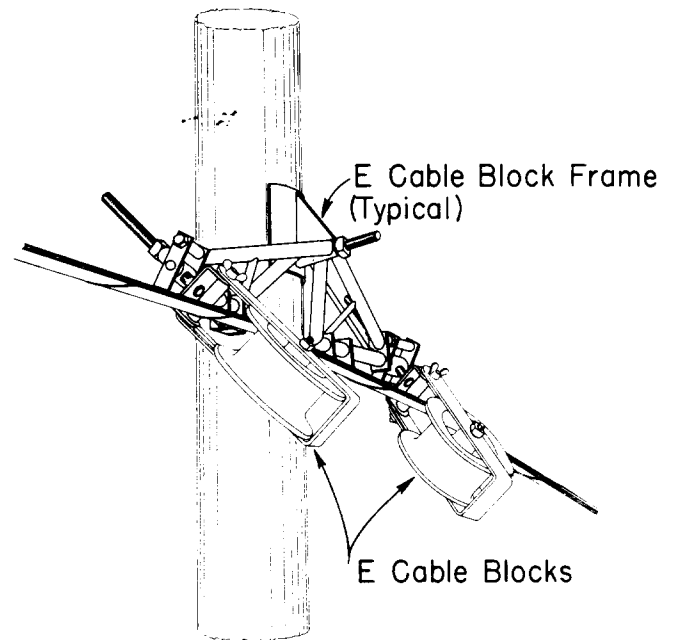

Fig. 11—E Cable Block Frame (With E Cable Block Installed)
6.05 A typical **E cable block frame** (Fig. 11) is used at inside corners where the pull is greater than 8 feet but does not exceed 50 feet. The frame construction may be welded steel tubing as shown or aluminum alloy casting.